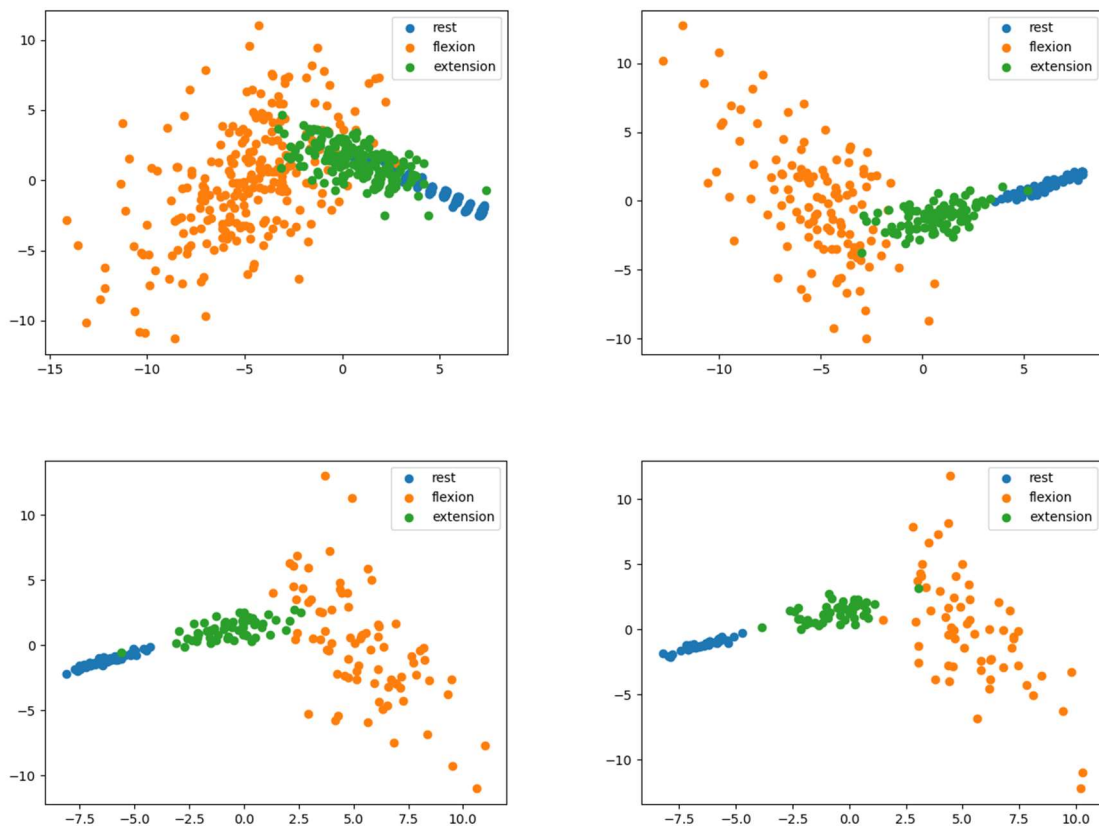
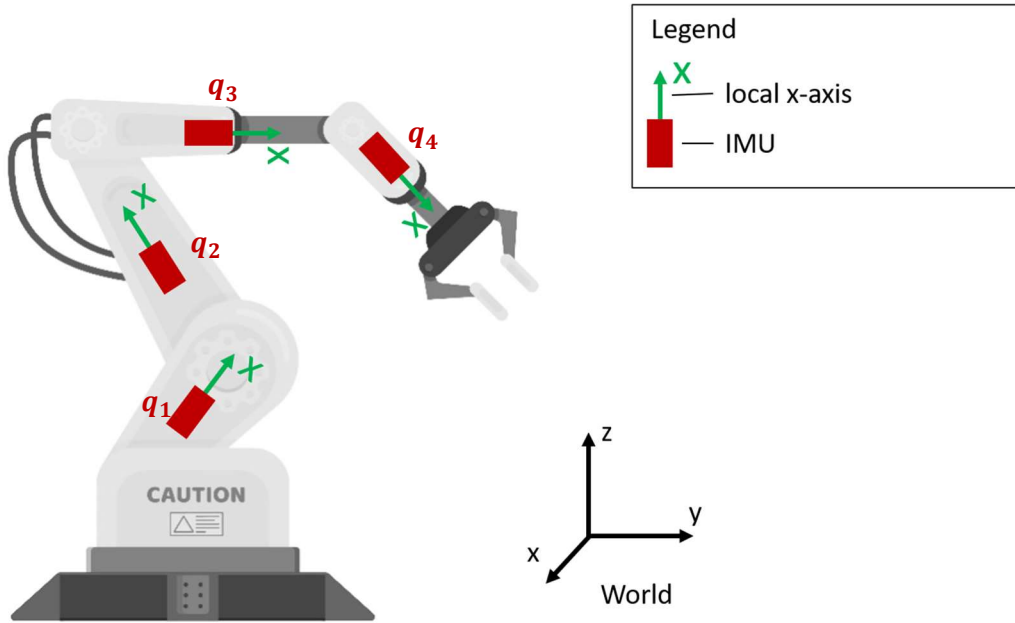

Figure 1 - PCAs
Figure 2 - IMU placement
3.1 (20%) Kinematic Chain / Quaternions - The Bosch IMU BNO055 includes a sensor fusion that can provide an absolute orientation in the form of a unit quaternion in the world frame W . The sensors are aligned in a way that the x-axis S_x of the local sensor frame S points in the direction depicted below (Figure 1). Furthermore, assume that the kinematic chain (Figure 2) depicted below is valid. Calculate the position of p_4 and the Euclidean distance between p_0 and p_4 in the world frame W under the assumption that p_0 lies in the origin of the coordinate frame. Conversion from pure quaternion to vector can be notated in the following way: